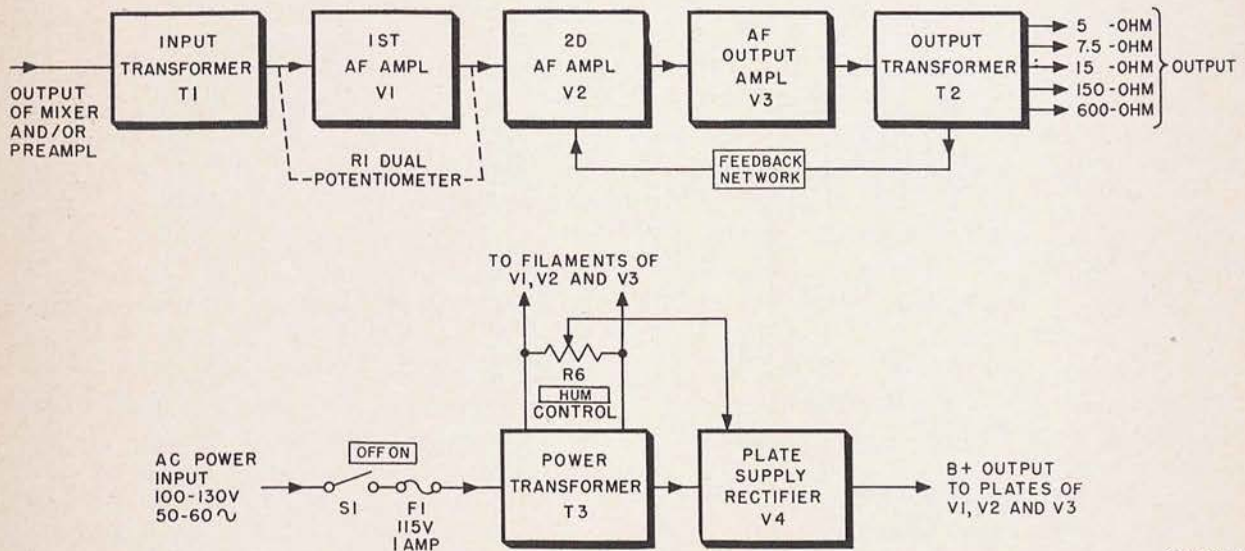

Figure 18. AF Amplifier AM-465/FR, functional block diagram.
37. Block Diagram (fig. 18)
AF Amplifier AM-465/FR is a four-tube high fidelity, high gain, low distortion amplifier designed to raise the output level of preamplifiers or mixers to a level suitable for feeding broadcast telephone lines or audio transmitter inputs. The signal path and block diagram are shown in figure 18. A complete schematic diagram is shown in figure 27.